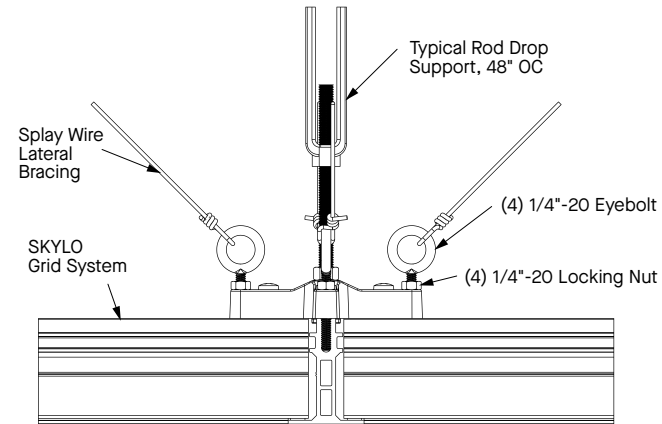

Fig 17A
There are multiple recommended options for bracing the Skylo system against lateral seismic loading (**Figs 17A, 17B, 17C**). The seismic analysis and lateral bracing shall be designed and certified by a Professional Engineer (PE) licensed in the jurisdiction where the project is located, and must comply with all applicable building codes, standards, and regulations.